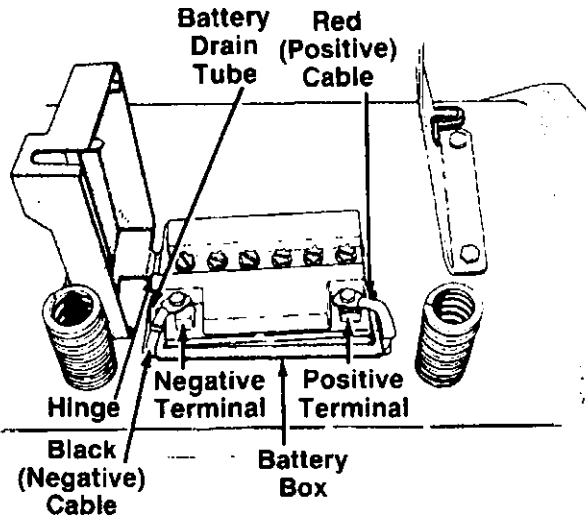

FIGURE 3.
- ← 1. Raise the seat bracket (on top of the fenders). Push any electrical wires out of the way so they are not disconnected when installing the battery box. Place the plastic battery box into the opening beneath the seat bracket. The hinge on the battery box goes toward the left side of the unit. Snap the battery box in place so the retaining edges on the box are beneath the fender. Make certain the battery cables are routed up along each side of the box. See figure 3.
2. Place the battery inside the battery box so that the positive terminal is toward the right side of the unit. See figure 3. Route the battery drain tube down beside the battery box.
3. Slide the hex nut (provided with battery hardware) into the positive (+) terminal. Place the positive (heavy red wire) cable on the positive terminal. Secure with bolt provided. See figure 3. Slide the rubber boot over the positive terminal.